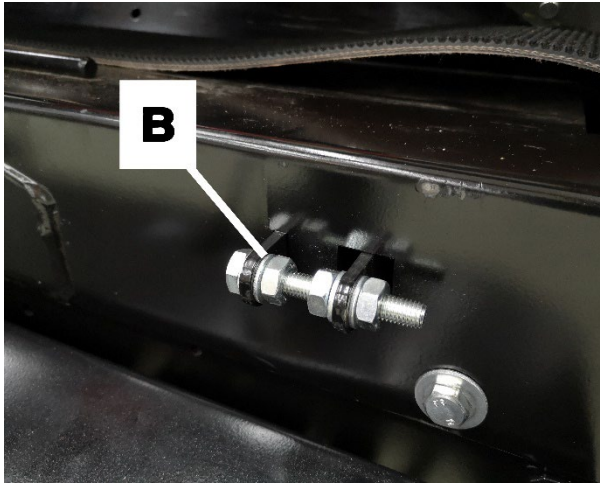

Figure 14
- ❑ Turn the hexagon socket screw B in the desired direction. See the instruction decal C, Fig. 14.